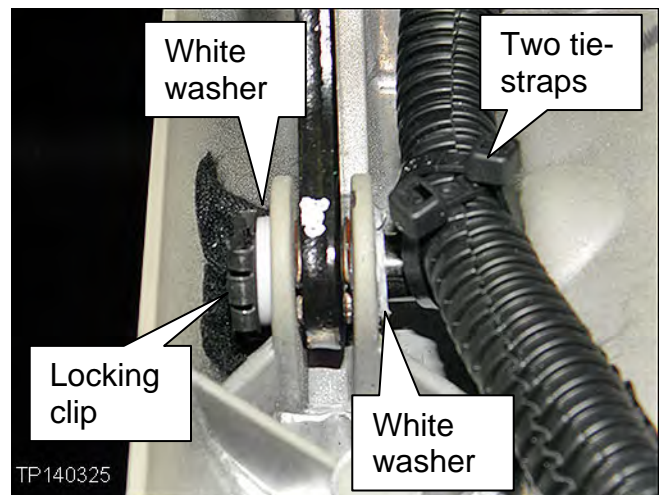
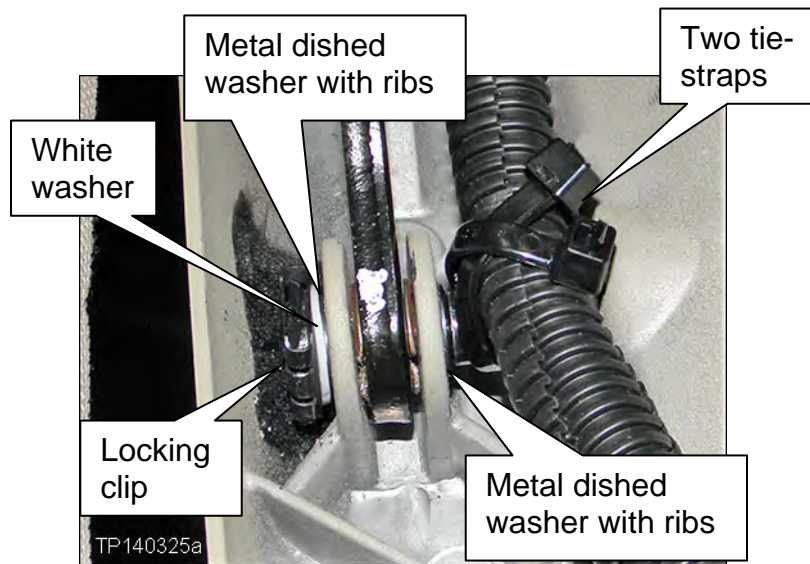

Figure A17
Figure A18
**NOTE:** During removal, you may find that this pin has washers as shown in Figure A17, or washers as shown in Figure A18 on the next page.
- Make sure to install the metal dished washers as shown in Figure A18.